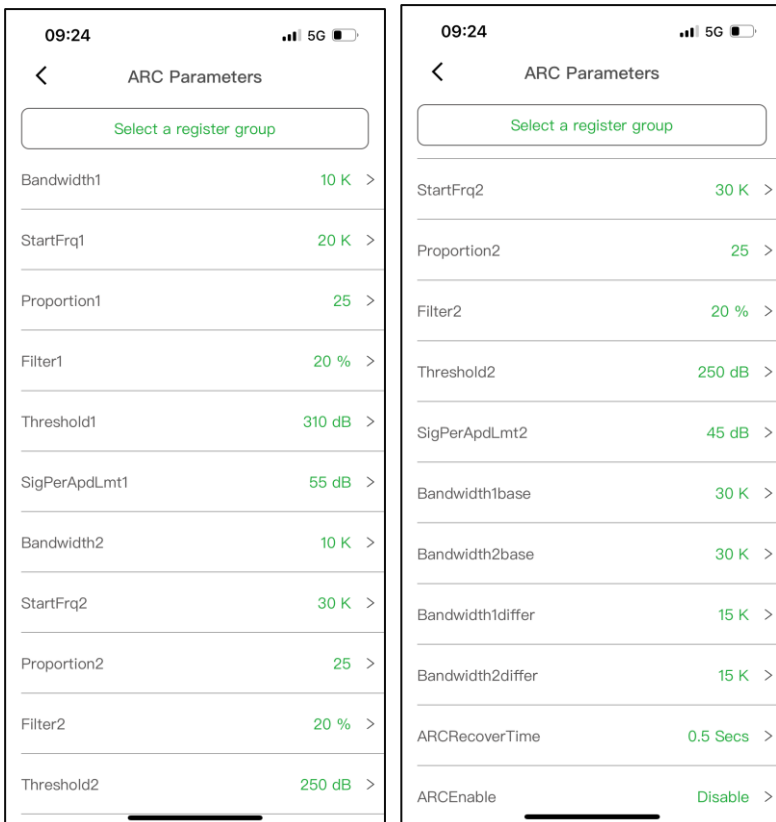

Fig. 5-20 ARC Parameters
- ARCClear:** This function is used to manually clear the ARC protection of the machine (if 4G network card is connected, this function can be used remotely on web page). The device is preset to automatically reconnect 5 times within 24 hours by default (the automatic reconnection time can be set in parameter area of ARC interface, refer to Fig. 5-20). When ARC protection is triggered for the fifth time, it is necessary to manually clear the ARC fault. Then the device will resume the automatic reconnection function – reconnect five times within 24 hours. (unavailable to 110kw inverters).
When ARC protection is triggered, the device will perform automatic reconnection functions for five times within 24 hours (the automatic reconnection time can be set in the “ARCRecoverTime” item, as shown in Fig. 5-20). When ARC protection is triggered the fifth time, it is necessary to manually clear the ARC fault (see 5.4.2.2.6). Then the device will resume the automatic reconnection function – reconnect five times within 24 hours, and manual startup is required.